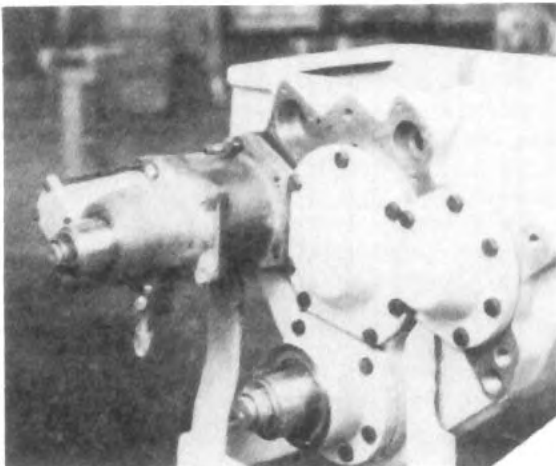

Fig. 37
8. Refer to section VI G, paragraph 12 for installation of the PTO unit on the transfer case. Also See Fig. 33 and Fig. 37.